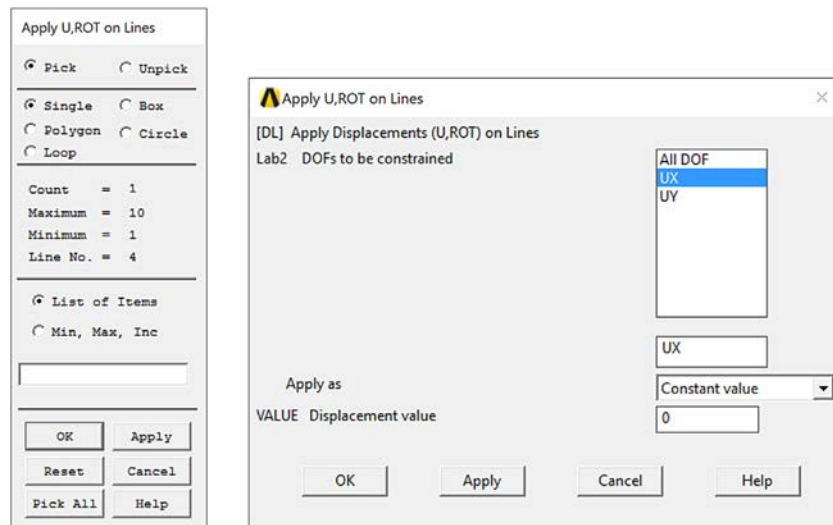

Figure 2-1-12 Applying Line Constraints in X.
The line should now be highlighted in the Graphics Window. The “Count” field in the picking dialog box (also known as the Picker) should have incremented to “1” and the “Line No.” field should also contain a number (Figure 2-1-12, left). (This is Line 4 at revision 17.2.) This allows you to verify that you have successfully chosen a line and to confirm that it was the correct line.
- In the “Lab2 DOFs to be constrained” field select UX (Figure 2-1-12, right)